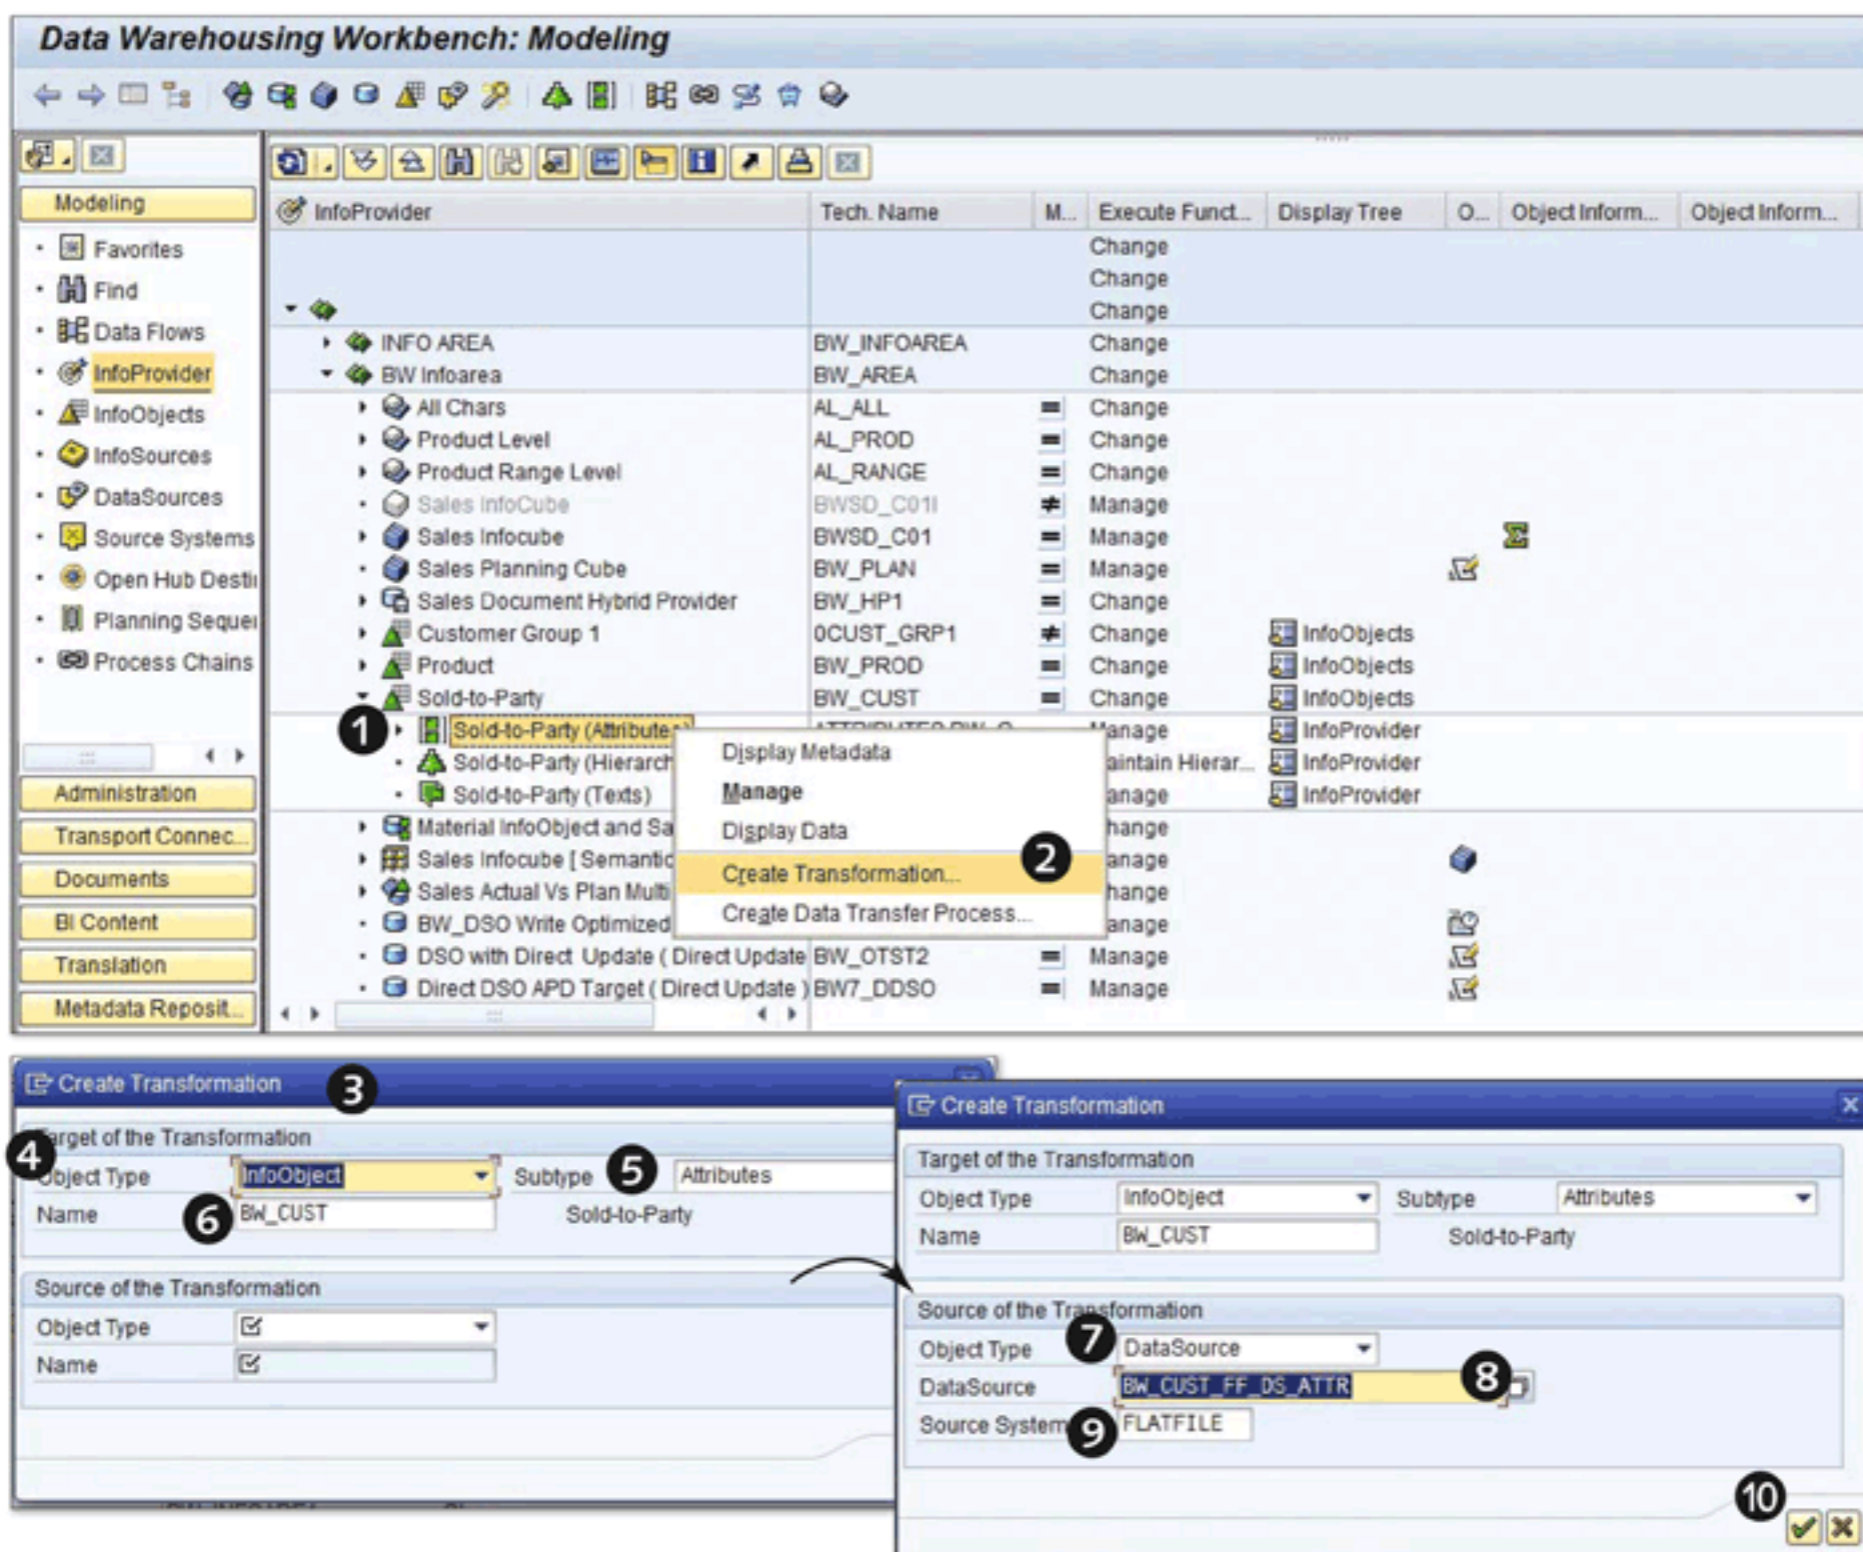

Figure 7.21 Creating a Transformation
Now that the InfoObject BW_CUST is available in the INFOPROVIDER tree, a transformation can be created. In our example, we want to create a transformation between the InfoObject BW_CUST and DataSource BW_CUST_FF_DS_ATTR. Select SOLD-TO PARTY (ATTRIBUTE), as shown in 1 of Figure 7.21. Open the context menu, and select CREATE TRANSFORMATION (2), which results in 3 of Figure 7.21. Because we've started the creation of the transformation from the InfoObject BW_CUST (ATTRIBUTE), the target of the transformation is set to OBJECT TYPE = INFOOBJECT (4), SUBTYPE OF OBJECT = ATTRIBUTE (5), and NAME = BW_CUST (6).
Next, supply the necessary information in the SOURCE OF THE TRANSFORMATION area (7, 8, and 9 of Figure 7.21). The source can be any of the following: